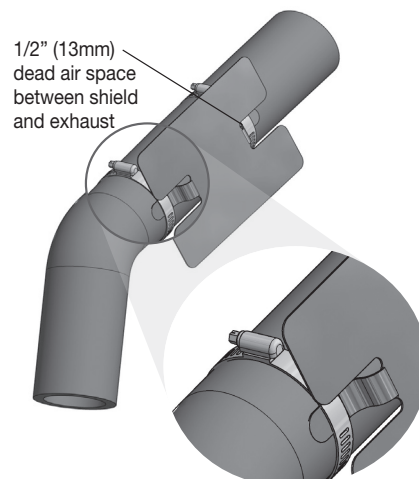

Fig. 27
1. Attach the metal heat shield to the exhaust where it is closest to the passenger's (right) side air spring (Fig. 27). Slide the hose heat shield onto the air line on the passenger side and push into position against the fitting (Figs. 29 & 33).